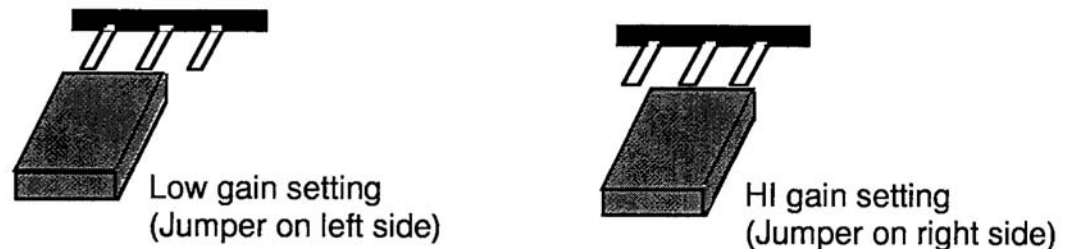

Figure 3-8. Jumper position for low gain and high gain
3. Start with the left rear strain link. The gain potentiometer (R125) adjusts the gain for this strain link. First take a look at the jumpers (J 115) to the left of R125 (see Figure 2-2 for exact location). It should be set to the left (in other words, the right pin of the jumper connections will not be covered by the jumper block). See Figure 3-8. This jumper setting is the *low gain* setting. If necessary, you will need to move the jumper to the *high gain* setting later. For now, make sure the jumper is at the low gain setting.
If you reach the end of the adjustment (tonnage display will not change anymore) and the tonnage is still less than the tonnage on your calibration unit, you must set the jumper J115 described in step 3 to *high gain*. First turn power to AutoSet 1504 off. Pull the jumper straight out and place it over the top and center pins. See Figure 3-8. Turn power on and cycle the press.